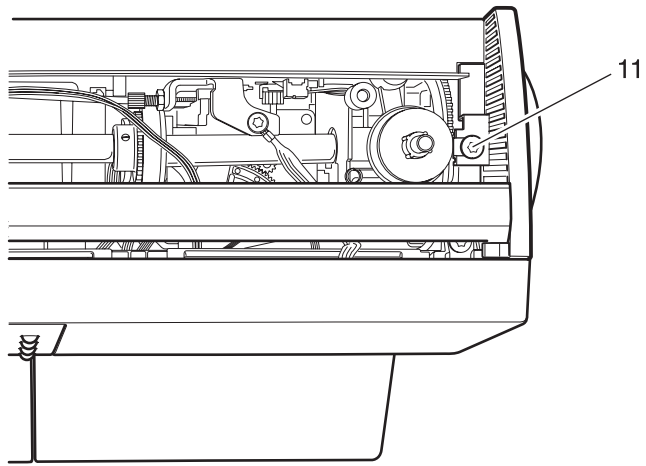

Fig. 81
- Loosen fastening screw 11 on the stand cover (fig. 81).